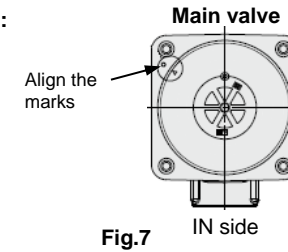

Fig.7
- Assemble the main valve (sub-valve) to the body, with reference to the mounting orientation shown in Figs.7, 8 and 9.